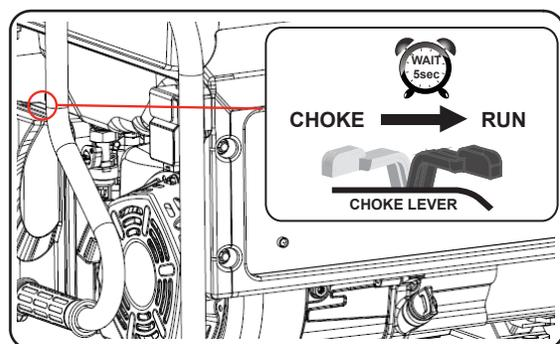

Fig 10
- Let engine run for several seconds and then gradually, as engine warms up, slide the choke lever towards the “RUN” position until the choke is fully at the “RUN” position and the engine has stabilized. (See fig 10)